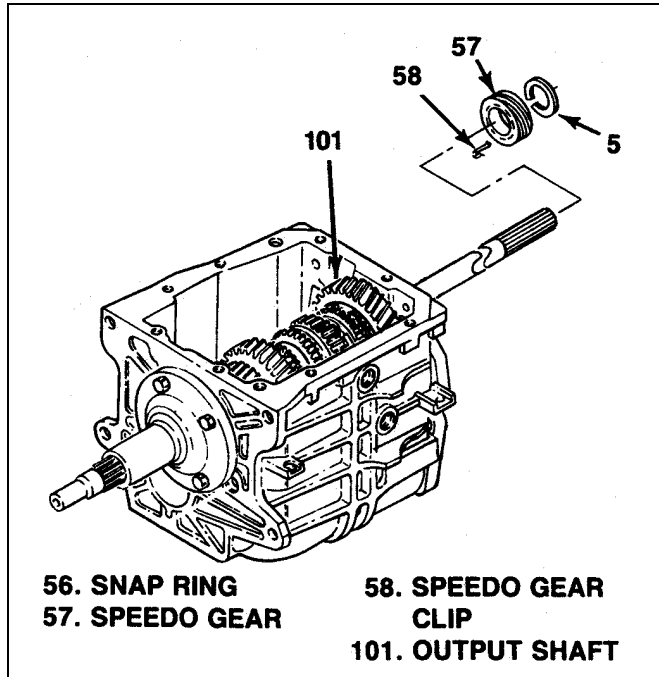

Figure 3-7. T5 WC Speedometer Gear
- e. Remove blocking ring (54) and 5th speed drive gear (55) from transmission.
**3-13. REMOVAL OF T5 WC SPEEDOMETER GEAR.** On models so equipped, remove speedometer gear as follows: (see figure 3-7):
- a. Remove one snap ring (56) from output shaft (101).
- b. Disengage clip (58) and remove speedometer gear (57) and clip.